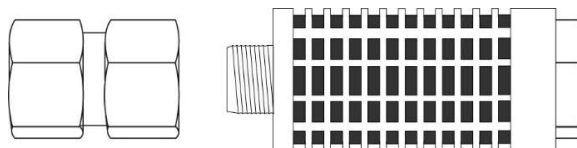

Figure 15: Exhaust Muffler with ¼" Swagelok Adaptor
1. Connect the provided exhaust muffler with Swagelok adaptor to the INTERNAL PUMP EXHAUST port to exhaust into the room air, or route to your facility ventilation system, using ¼" tubing. (Figure 15)
6. Connect the provided exhaust muffler to the exhaust port of the external pump to expel into the room air, or route to your facility ventilation system. (Figure 15)